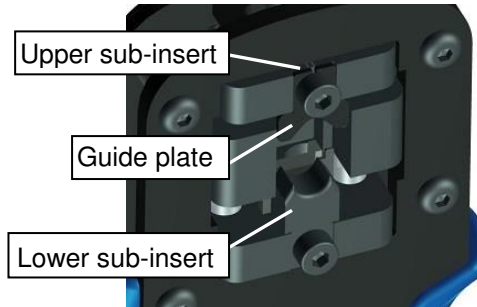

Fig.1.
- ❑ Fig.1. clarifies terms "upper sub-insert", "lower sub-insert" and "cable size stripes" necessary for correct tool preparation. Using the inappropriate combination of sub-inserts and cable size (O.D.) may result with false crimp, and tool damaging for which the manufacturer cannot be held responsible.
- ❑ Always remember to reattach guide plate (Fig.1). Failing to do so may influence normal tool functioning.